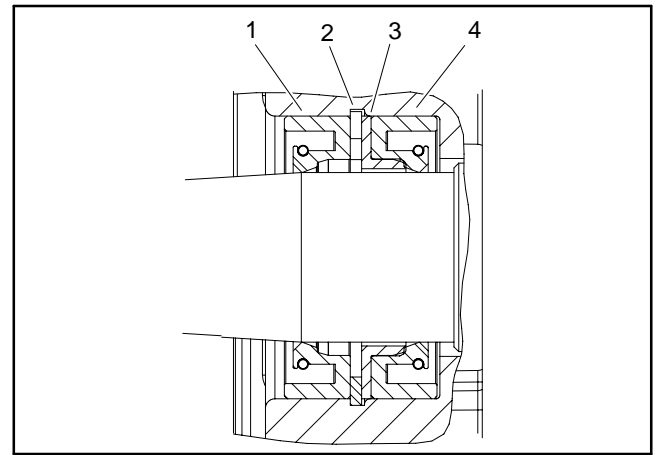

Figure 83
10. Carefully remove dust seal, retaining ring, flange washer and shaft seal from the front flange (Fig. 83). Note orientation of seal lips during removal. Discard removed seals.
2. Install new seals into front flange (Fig. 83). Note orientation of seal lips during installation: